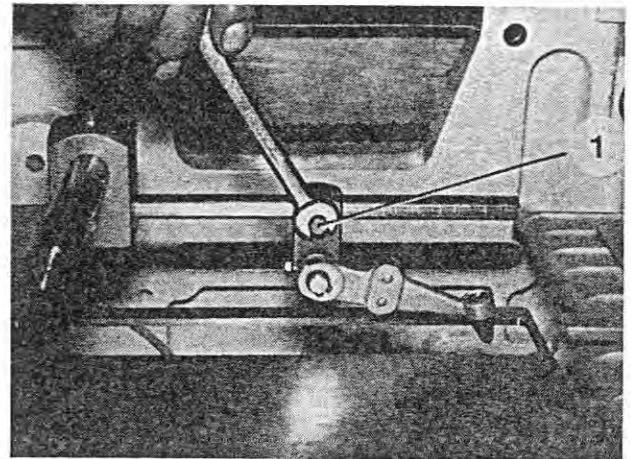

Fig. 165
4. In the case of wrapper advance with a register finger, loosen the locking screw (Figure 165/1) and adjust the register finger to the mark which corresponds to the format. Tighten the locking screw.